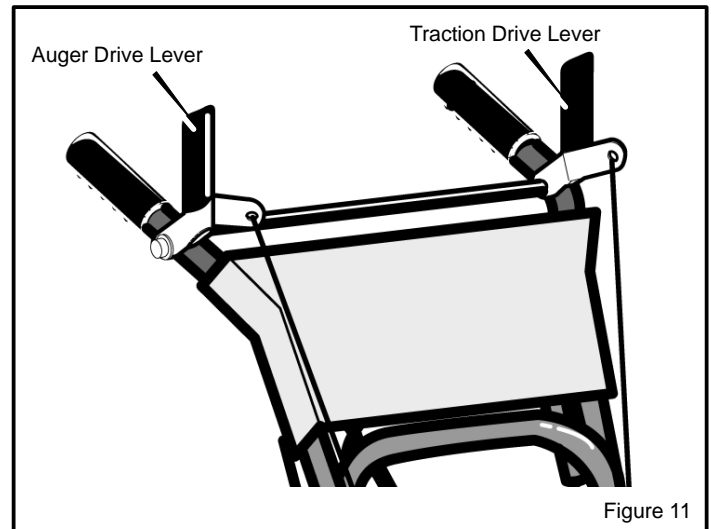

Figure 11
1. To stop throwing snow, release the **auger drive lever**. (see Figure 11).
3. Engage the **traction drive lever** (see Figure 11). As the snowthrower starts to move, maintain a firm hold on the handles and guide the snowthrower along the cutting path. Do not attempt to push the snowthrower.
1. Push down the auger driver lever (right hand). See Figure 11.